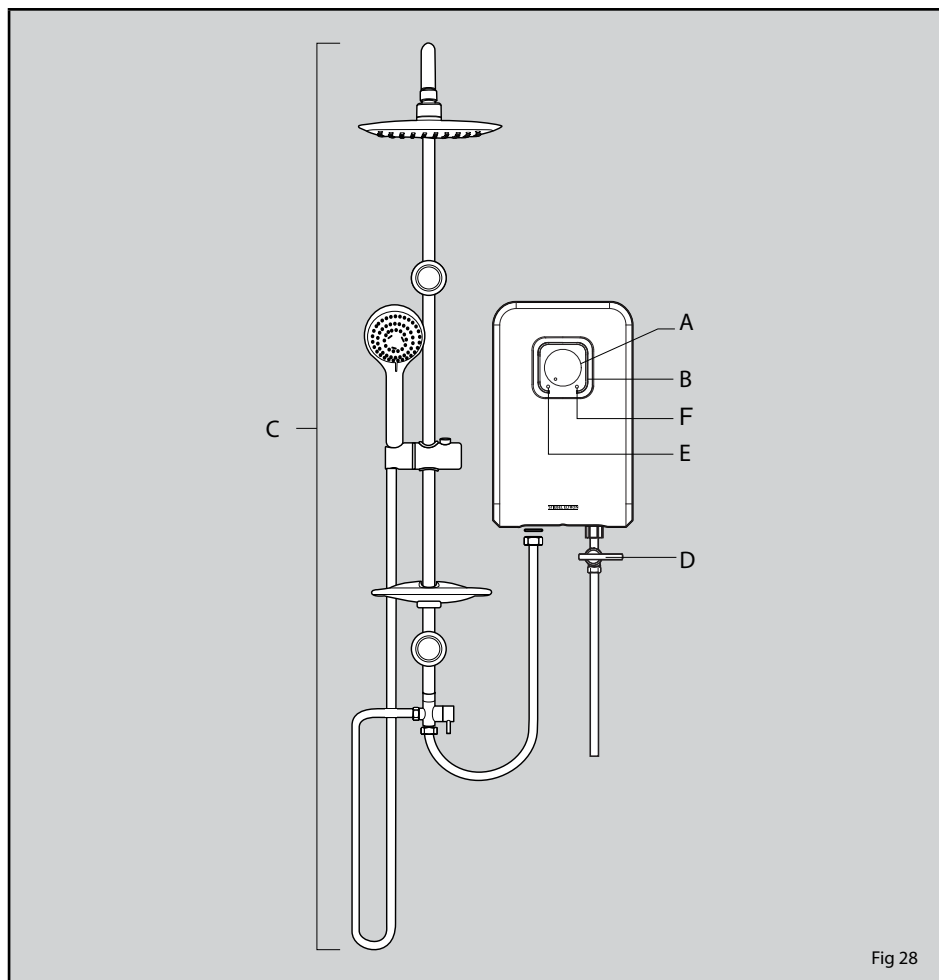

Fig 28
The STIEBEL CHROME-2 and STIEBEL BLACK pressureless (open) instantaneous water heater is a device for heating water for showering. The electrical power is electronically controlled. The flow is controlled by using the water valve (D) Fig. 28.
The "Power" light (B) Fig. 28 indicates that the unit is switched on. If the temperature adjustment rotary switch (A) Fig. 28 is turned to the left, it is possible to take a cold shower (the heating will not be switched on).